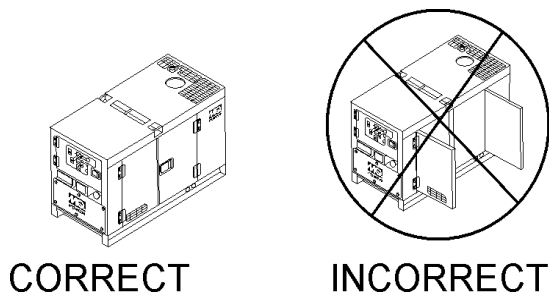

Figure 34. Engine Enclosure Doors
4. Close all engine enclosure doors (Figure 34).